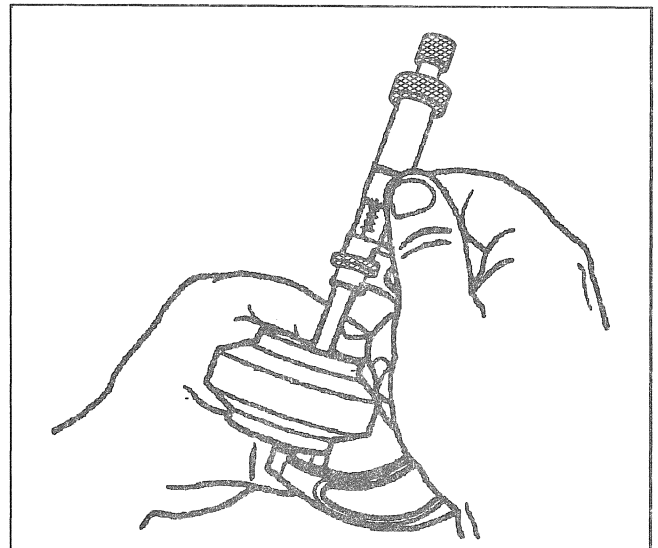

Figure 17—Measuring the Reaction Block
- 1. The thickness of the original reaction blocks and reaction block thrust washers together (Figure 17).